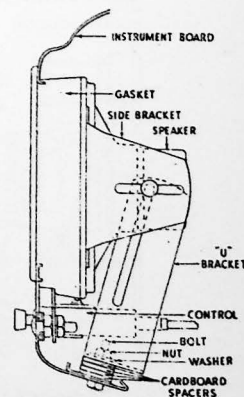

Figure 1
3. Fasten the "U" bracket to the instrument board flange with the nuts, bolts and washers, using four cardboard washers under each bolt, and make sure that the long slot in the sides of the "U" bracket are toward the grille. (See figure 1).
5. Loosely assemble the side brackets on the speaker to the "U" bracket, and force the speaker forward and in position as shown in Figure 1, then tighten the nuts.